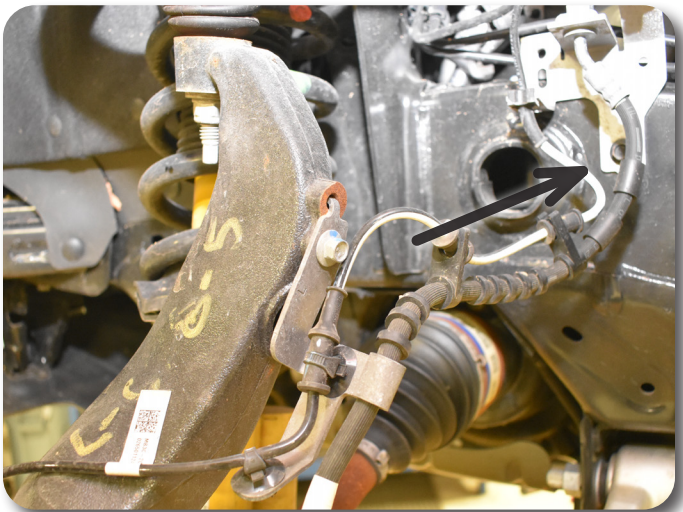

Figure 3
6. Disconnect the front brake line from the frame. Figure 3